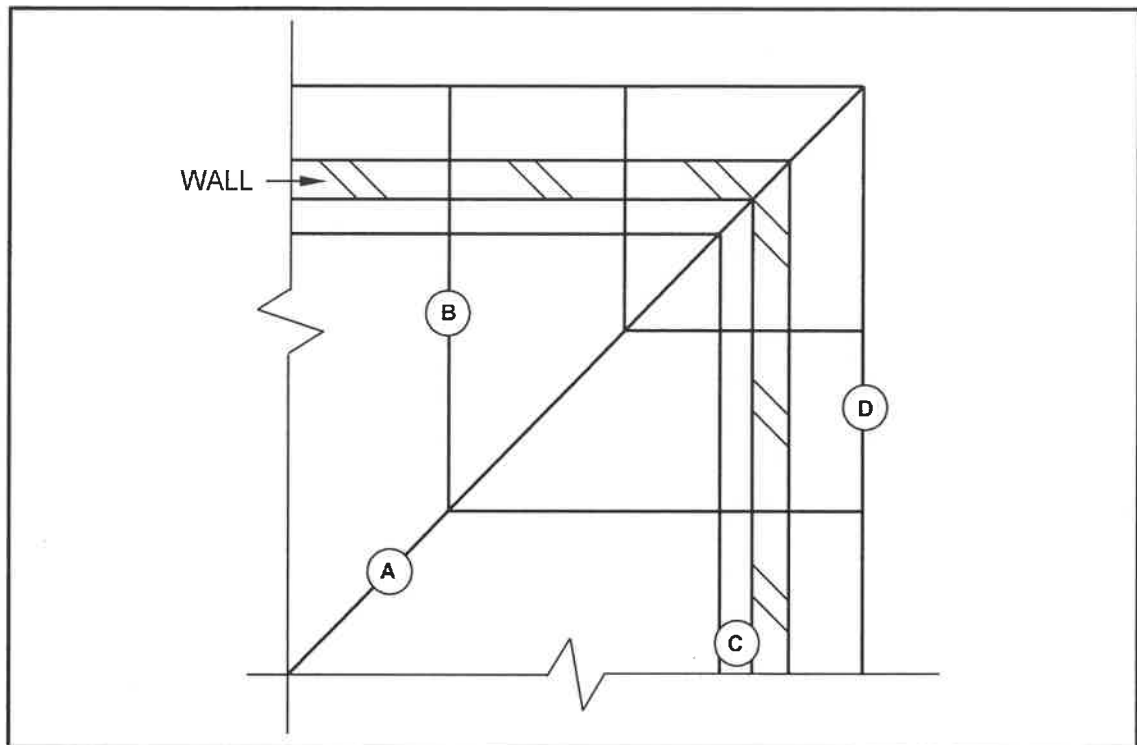

FIGURE 4.8
- 4.8 The sketch in FIGURE 4.8 below shows a line diagram of the layout of the roof members of a hipped roof on the corner of a building. Identify parts **A** to **D**.